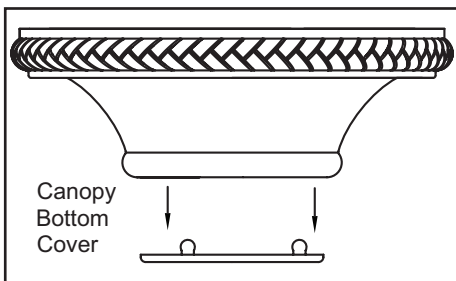

Figure 8
WHEN MOUNTING THE FAN ON A SLOPED CEILING, THE STANDARD BALL/DOWNROD MOUNTING METHOD MUST BE USED. THE MOUNTING PLATE MUST BE MOUNTED SO THAT THE SLOT OPENINGS ARE ON THE LOWER SIDE BY SLIDING THE MOUNTING PLATE FROM THE TOP DOWN. FOR A GREATER MOUNTING ANGLE, REMOVE THE DECORATIVE CANOPY BOTTOM COVER (FIGURE 8).
3. Remove the decorative canopy from the bottom cover from the canopy by depressing the three studs (Figure 8).